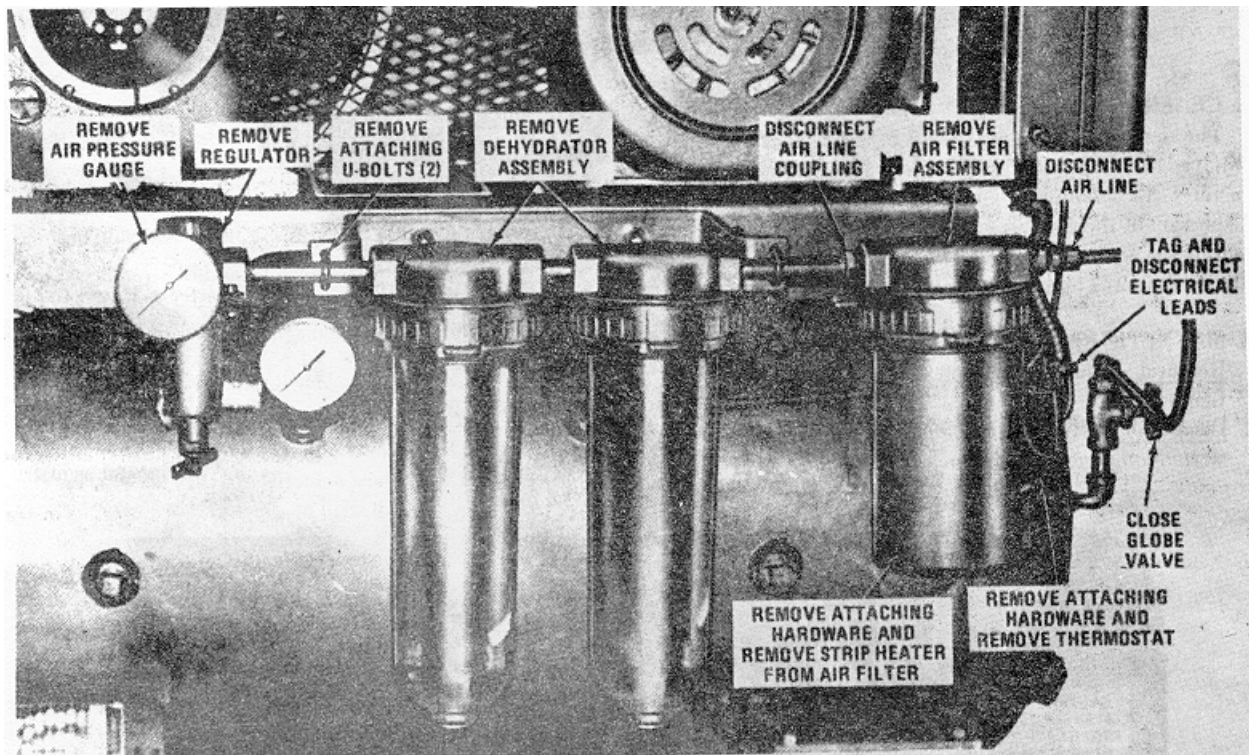

Figure 13. Air filter, strip heater, thermostat hydrator and regulator, removal and installation
1. Removal. Remove strip heater and thermostat as instructed on figure 13. Replace: defective parts, as necessary.
2. Installation. Install strip heater and thermostat as instructed on figure 13.
- b. Remove the air filter as instructed on figure 13.
- Install the air filter as instructed on figure 13.
- Removal. Remove the dehydrator assemblies as instructed on figure 13. Replace defective parts as necessary.
- Installation. Install the dehydrator assemblies as instructed on figure 13. Refer to Section II D, 2 for installation of desiccant.
- Removal. Remove the regulator assembly as instructed on figure 13. Replace defective parts as necessary.
- Installation. Install the regulator assembly as instructed on figure 13.